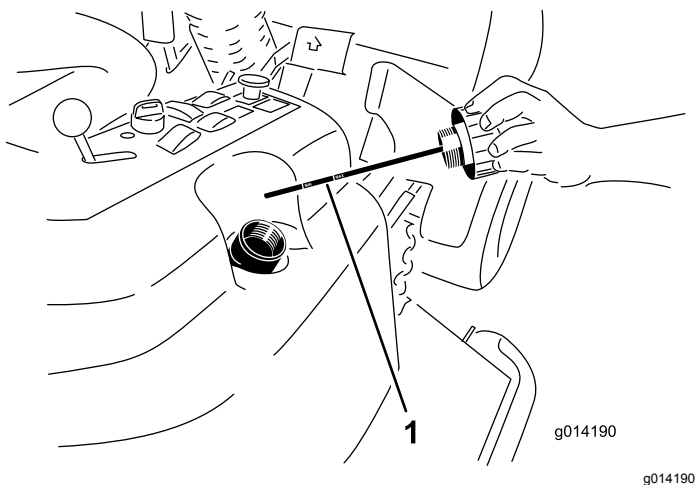

Figure 66
2. Remove the hydraulic fill cap (Figure 66) from filler neck.
3. Remove the dipstick and wipe it with a clean rag (Figure 66).
4. Screw the dipstick all the way into the filler neck; then remove it and check level of fluid (Figure 66).